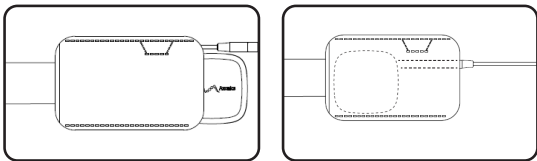

Figure 5: Insert the TS into the pouch on the belt.
2. Slide the TS into the pouch on the belt. Position the TS extension looped around the TS (**Figure 5**). The TS is fully inserted when it passes the narrow point of the pouch.